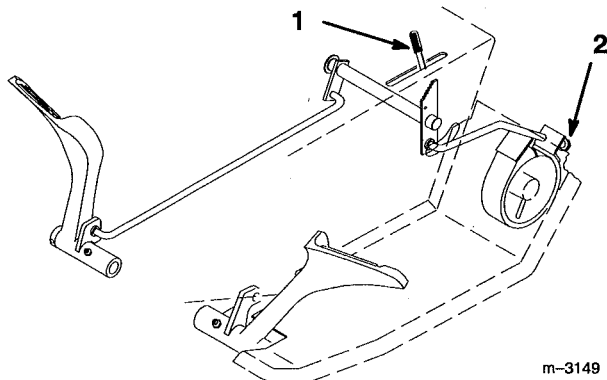

Figure 28
The brake adjustment is behind the left side cover (Fig. 28). If the parking brake does not hold securely, an adjustment is required.
3. To adjust the brake tighten adjustment nut until rear wheels skid, then tighten an additional 1/2 turn (Fig. 28).